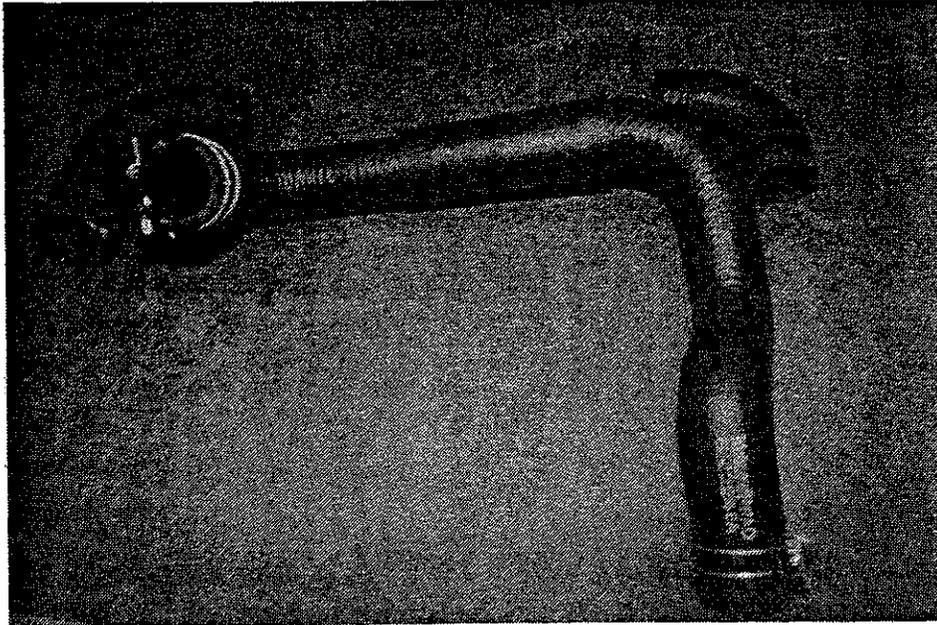

FIGURE 7
10. Modify the upper radiator hose as shown in Figure 7. The idea is to make two rubber 90° elbows. One from the end with 3" long legs and one from the middle with 2-1/2" long legs. Discard the unused portions.